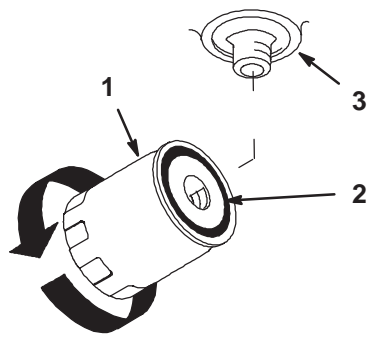

Figure 54
- Apply a thin coat hydro fluid to the rubber gasket on the replacement filter (Fig. 54).
- When fluid overflows filter turn the oil filter clockwise until the rubber gasket contacts the filter adapter, then tighten the filter an additional 1/2 turn (Fig. 54).